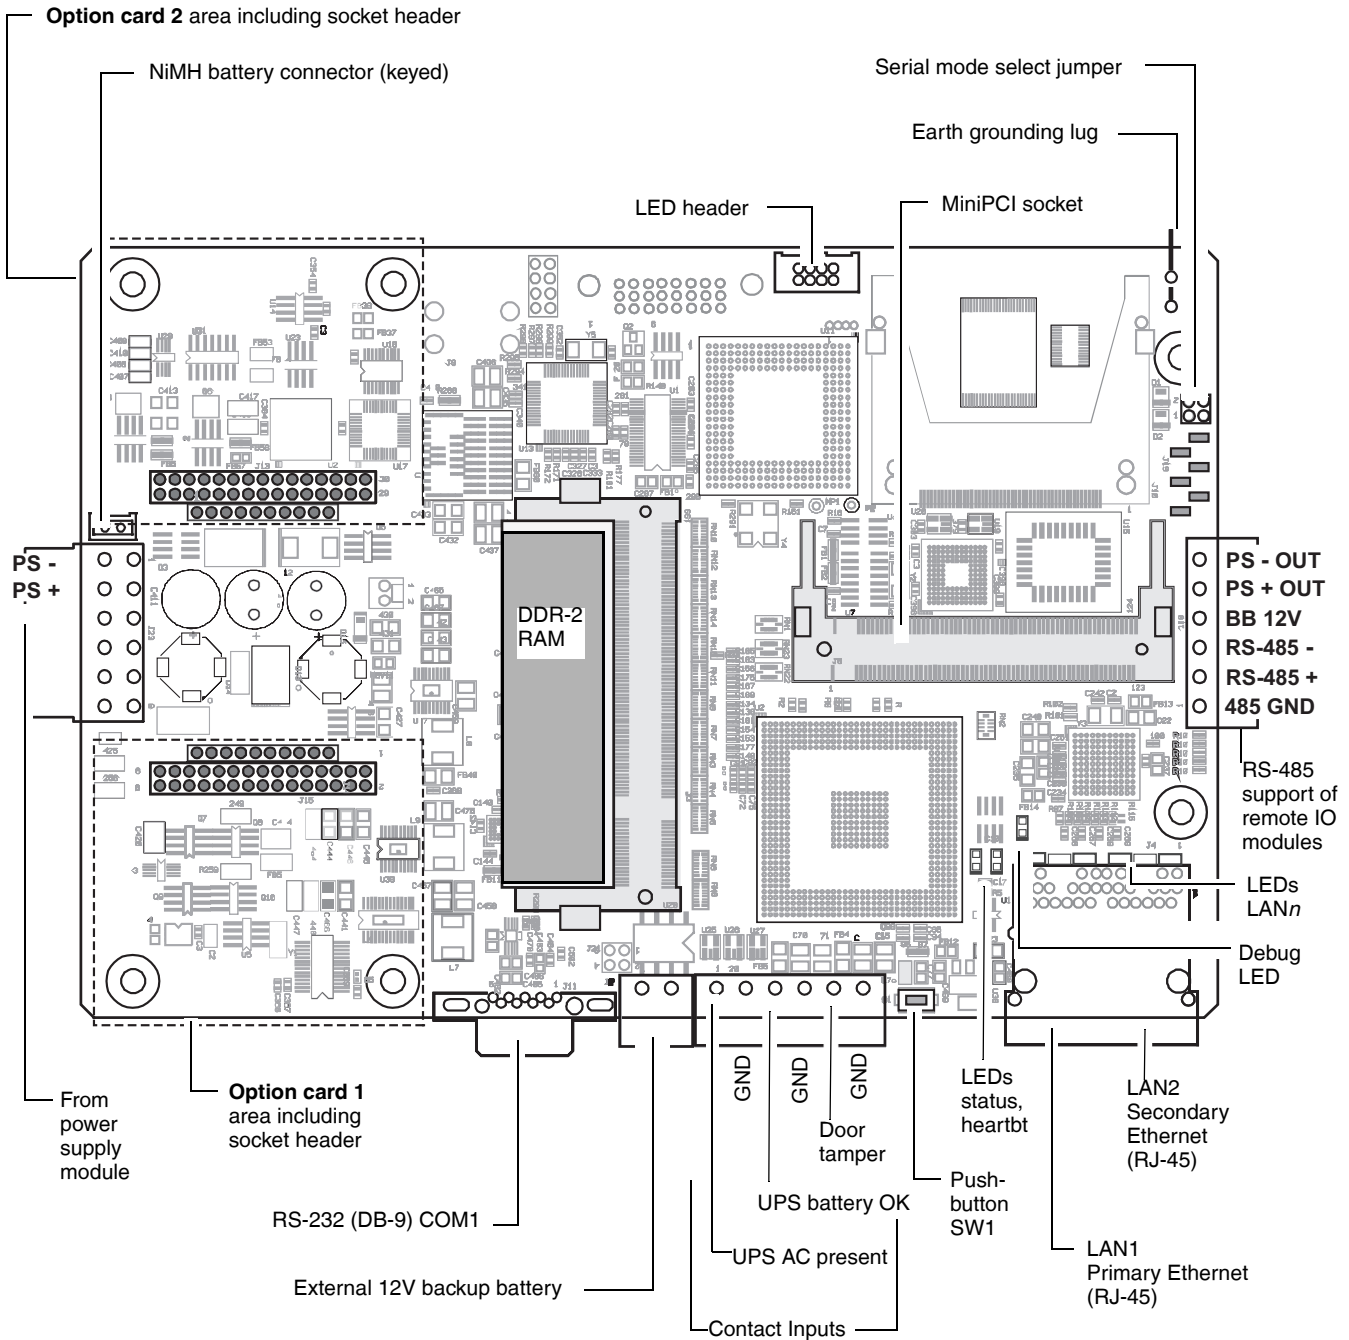
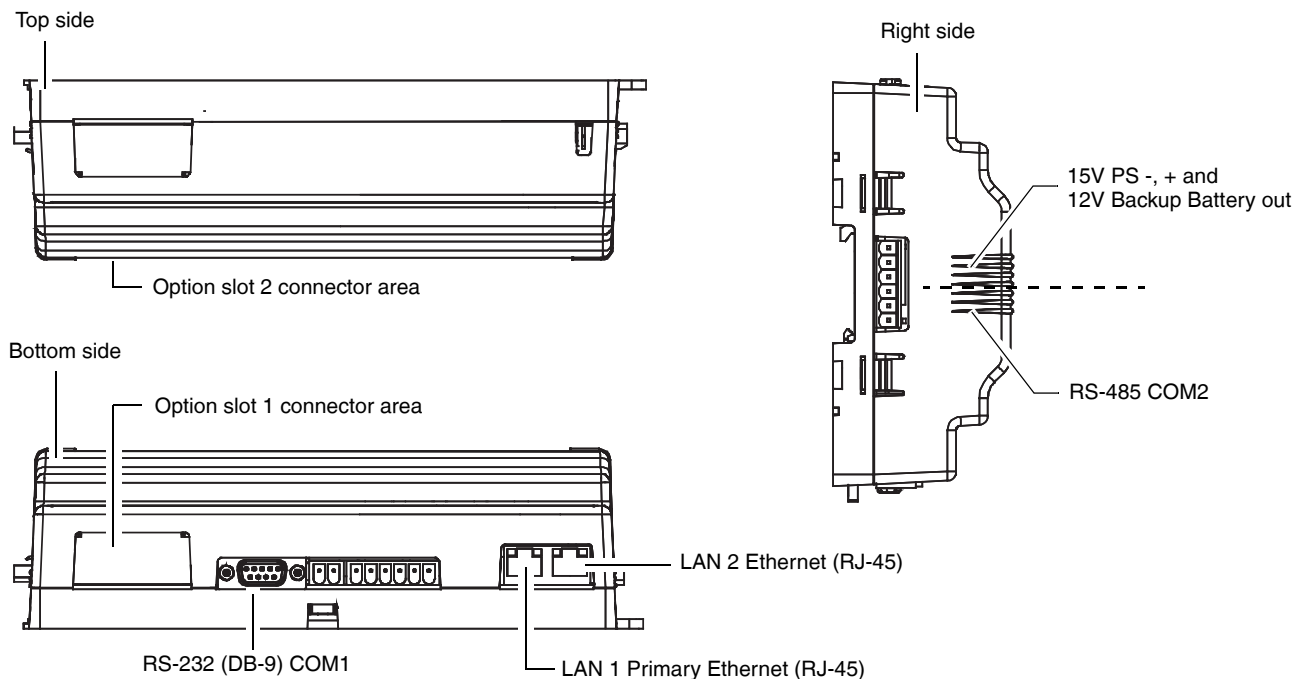

Fig. 5. WEB/CP-700 main board layout details
Fig. 6. WEB/CP-700 communications ports.
Fig. 5 shows the location of connectors, option slots, and other features of the main board in the WEB/CP-700. For side views of communications ports and other features, see Fig. 6, page 13.
To accept either, both option slots on the WEB/CP-700 base board have a 40-pin connector. See Fig. 5, page 10. Installing an option card is recommended before mounting the unit. See Installing an Option Card, page 12.
The WEB/CP-700 has one (1) available MiniPCI slot—see Fig. 5, page 10. This slot supports a specific 802.11 wireless (Wifi) adapter option, model NPB-WIFI-7.
See Fig. 5, page 10 to locate connectors and other components on the WEB/CP-700 controller.
Communications ports on the WEB/CP-700 controller are primarily on the bottom side of the unit, with ports also on the right side and top (Fig. 6). Communications port types include:
There are two “RS” serial ports on the WEB/CP-700 base board. Each has a UART capable of operation up to 115,200 baud. At the bottom of the board (see Fig. 6, page 13) is an RS-232 port using an DB-9 plug (male) connector. On the right side of the unit is an isolated RS-485 port, using the bottom three terminals of a 6-position screw-terminal connector plug.
NOTE: If rebooted with the mode jumper in the “Serial Shell” position (see Fig. 5, page 10), the RS-232 port provides “system shell” access. See the *NiagaraAX Install and Startup Guide* for related details.